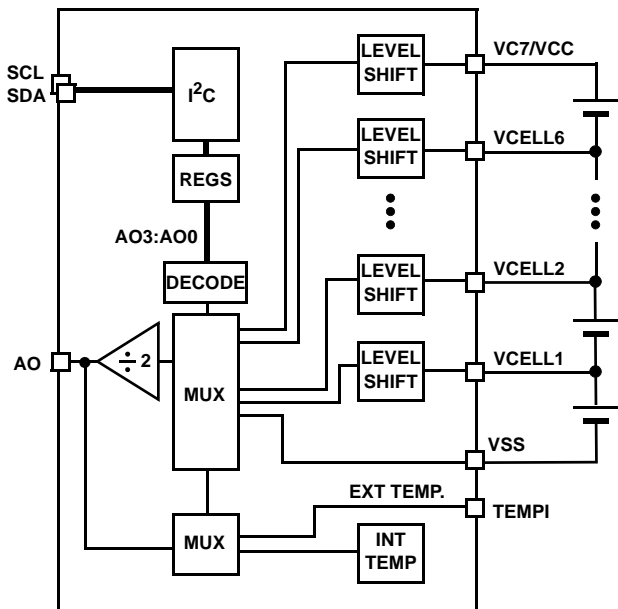

FIGURE 5. ANALOG OUTPUT MONITORING DIAGRAM
The ISL94201 devices can be used to externally monitor individual battery cell voltages and temperatures. Each quantity can be monitored at the analog output pin (AO). The desired voltage is selected using the I²C interface and the AO3:AO0 bits. See Figure 5.